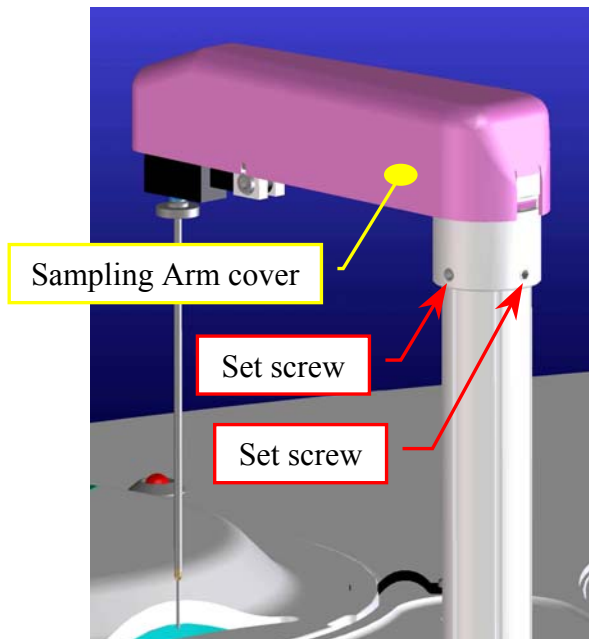

Fig. 2 – Set screws of the Sampling Arm
- d. loosen slightly the two set screws of the Sampling Arm (**Fig. 2**);
- f. tighten the two set screws of the Sampling Arm (**Fig. 2**);
- j. remove the Sampling Arm cover (**Fig. 2**);
- n. replace the Sampling Arm cover (**Fig. 2**);